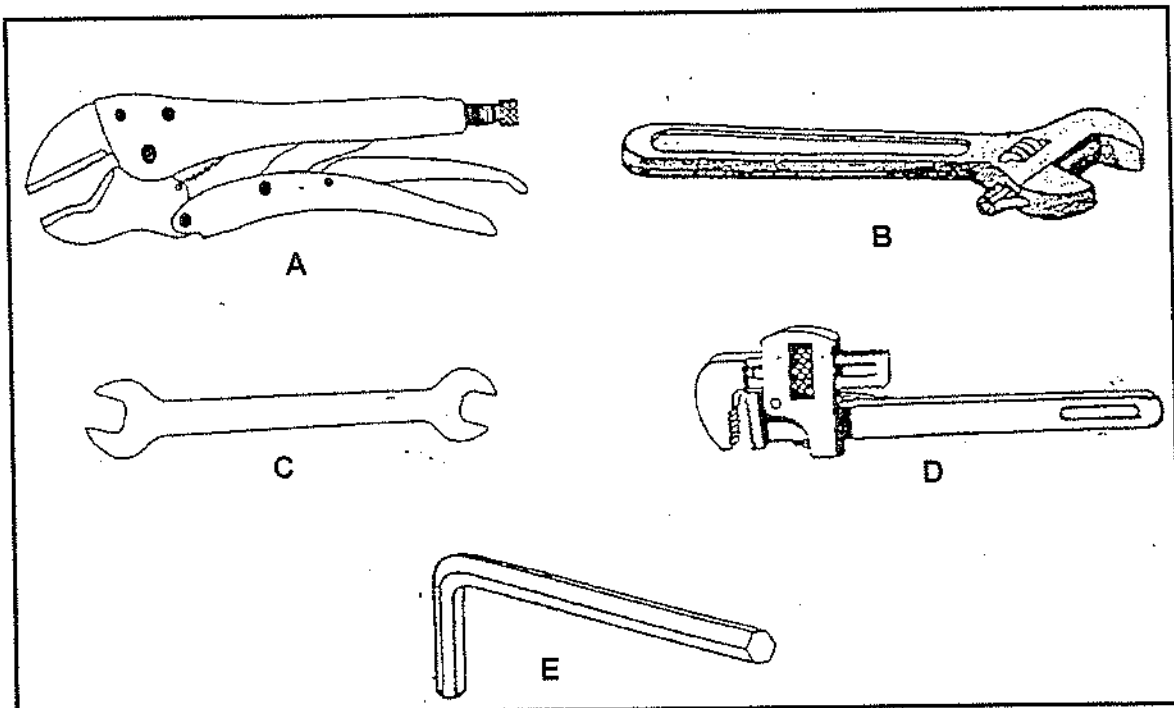

FIGURE 1
- 1.5 Write down the letters (A–E) in FIGURE 1 in the ANSWER BOOK and write only the name of the correct hand tool next to the letter (A–E).